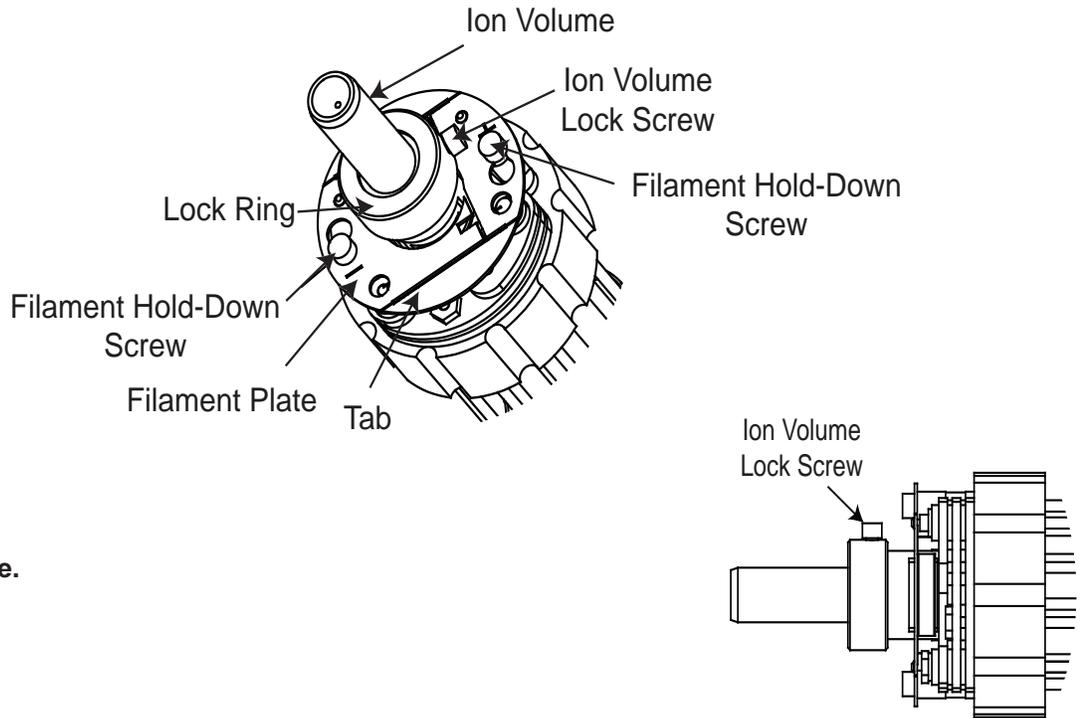

Figure 4-3.
The ion volume on the enclosed source must be removed to replace the filament. Using a hex wrench, remove the lock screw holding the ion volume and lock ring to the source (Figure 4-3). Carefully remove the screw, lock ring and ion volume and set them aside.
The filament plate is held in place by two (2) socket-head cap screws threaded into a filament base on each side. Using the hex wrench provided, loosen these two screws enough to rotate the filament plate counterclockwise and remove it by sliding the plate over the screw heads (see Figure 4-3). Be sure to remove all residual pieces of the old filament.